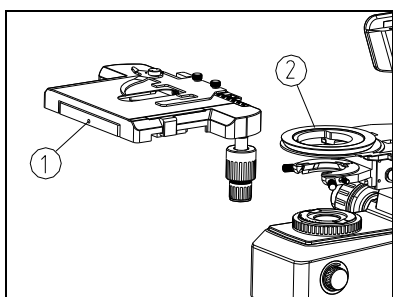

Fig.4
- (1) Loosen the lock-screw① on the stage. (See Fig. 4)
- (2) From a rear area of the rounded hole center on the base, carefully ring the two "V" buttons on the bottom of the stage into the "V" rounded groove②, then screw down the lock screw①.